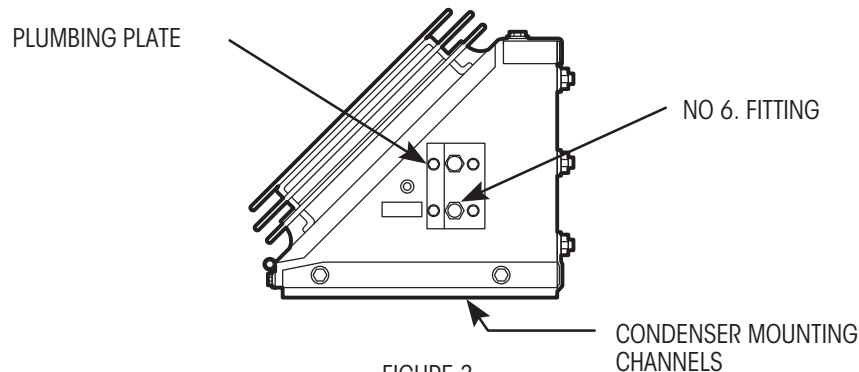

FIGURE 3
- 2) Hose connections may be moved to opposite side of housing by removing the condenser coil, turning it 180° and reinstalling. The fitting plate and hoses must also be moved to opposite side of housing. **Be sure No. 6 fitting is closest to condenser mounting channel.** See Figure 3.